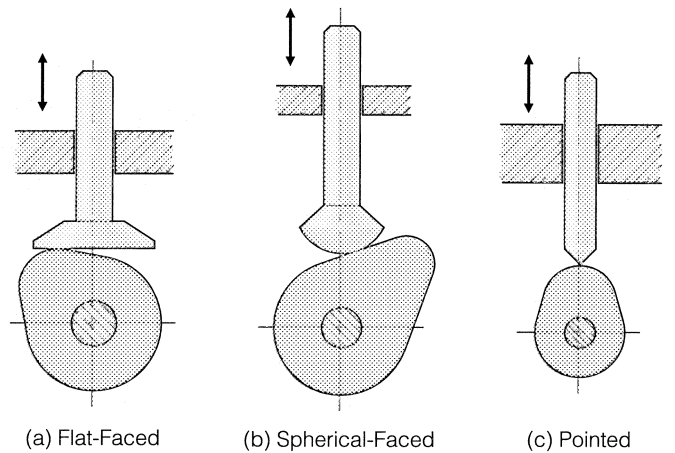

FIGURE 20.13 Nonrolling Cam Followers
**Flat-faced, spherical-faced, and pointed** followers (Fig. 20.13) are good styles for when the cam is not moving at high speeds and when heat buildup and wear of the follower are not factors in the machine's design.